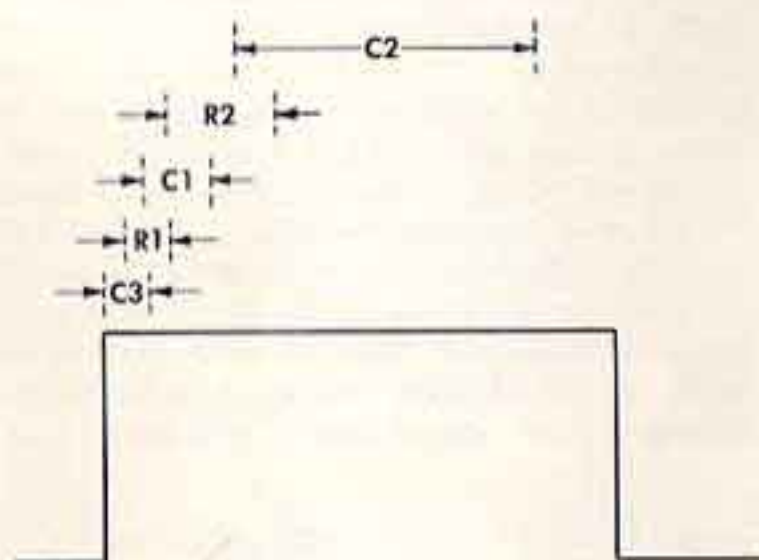

Fig. 2-1. Pulse area affected by each compensation adjustment.
The P6015 Compensating Box contains seven adjustable components. All except R5 (see schematic) vary the time constant of RC networks. The adjustable components and their affect on a 1-kc square wave (see Fig. 2-1) are as follows:
Compensation can be checked by displaying the oscilloscope calibrator 100-volt output through the P6015 Probe. Adjust the oscilloscope controls (0.05 volts/div, sweep rate 0.5 msec/div) to display a waveform similar to Fig. 2-1. If the waveform has aberrations, compensation is necessary. If the aberrations cannot be corrected by making minor adjustments, proceed as follows:
3. Set the sweep rates for 50 μ sec/div and display the leading corner of the square wave. Adjust R1, C3, and C1 for the sharpest leading corner without overshoot (see Fig. 2-1). Each may have to be adjusted several times for the sharpest corner. Maintain 2 divisions of deflection at the leading edge. The R1-C3 combination affects the very corner and C1 affects the area immediately following with some overlap.